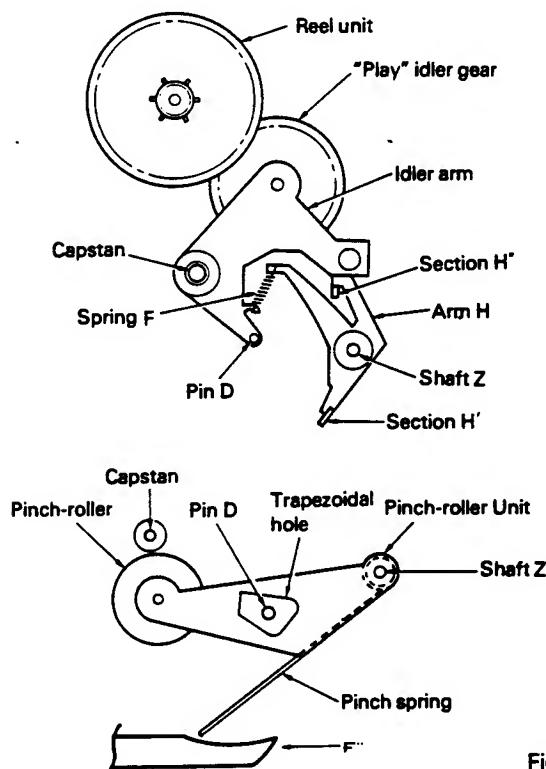

Fig. 17
5. After the head base goes beyond the MS pattern (Fig. 16-⑤) position, the arm "F", "F'" part pushes the pinch roller unit pinch spring and presses the pinch roller down onto the capstan. (Fig. 17)
6. Simultaneously, the arm "F", "F'" unit pushes the arm "H", "H'" part. The "H'" part lock releases when pushed, and the play idler gear comes into contact with the reel unit. Play operation begins because of this. (Fig. 16-⑤, Fig. 17)